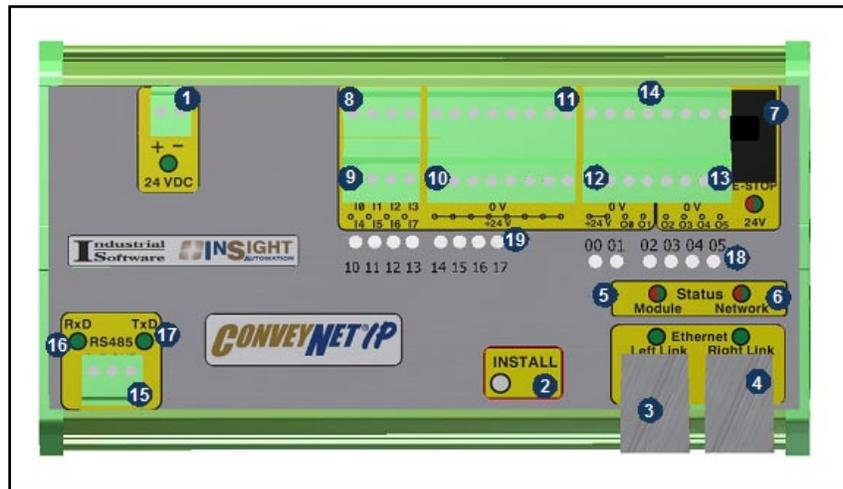
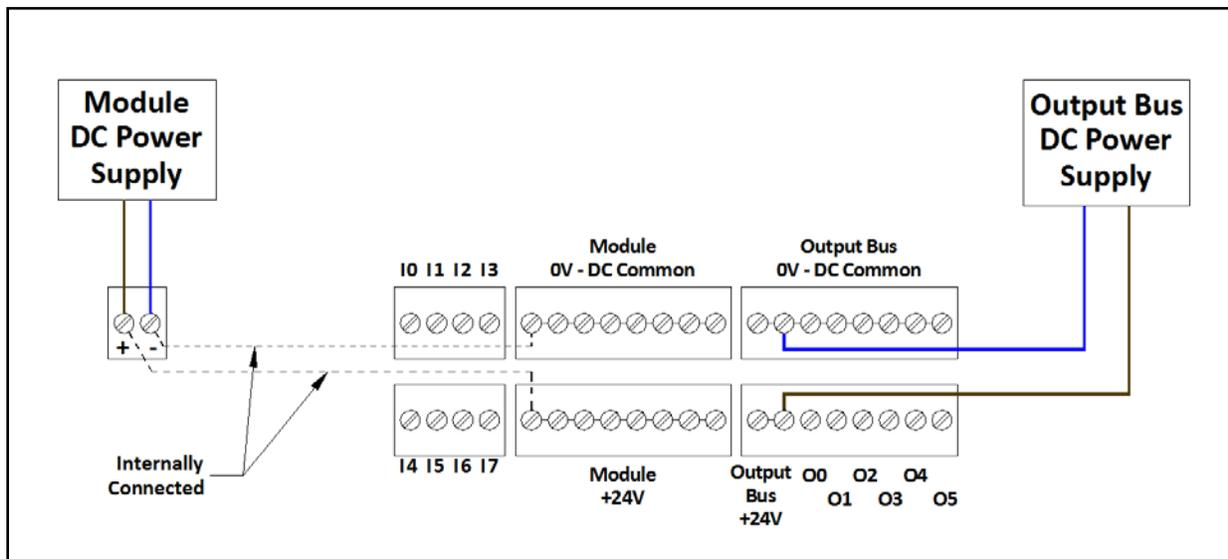
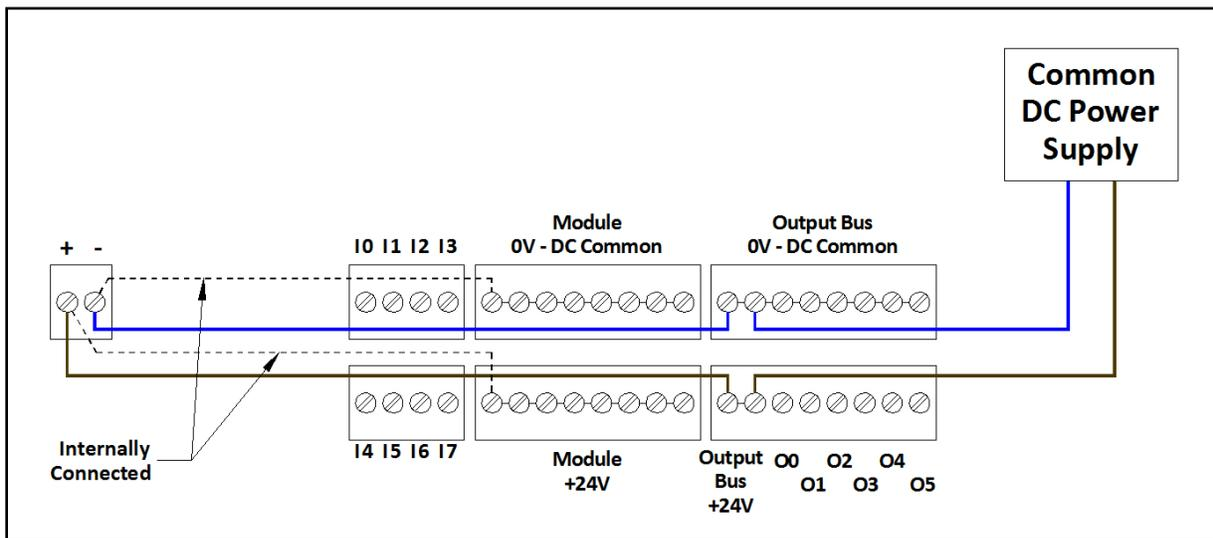
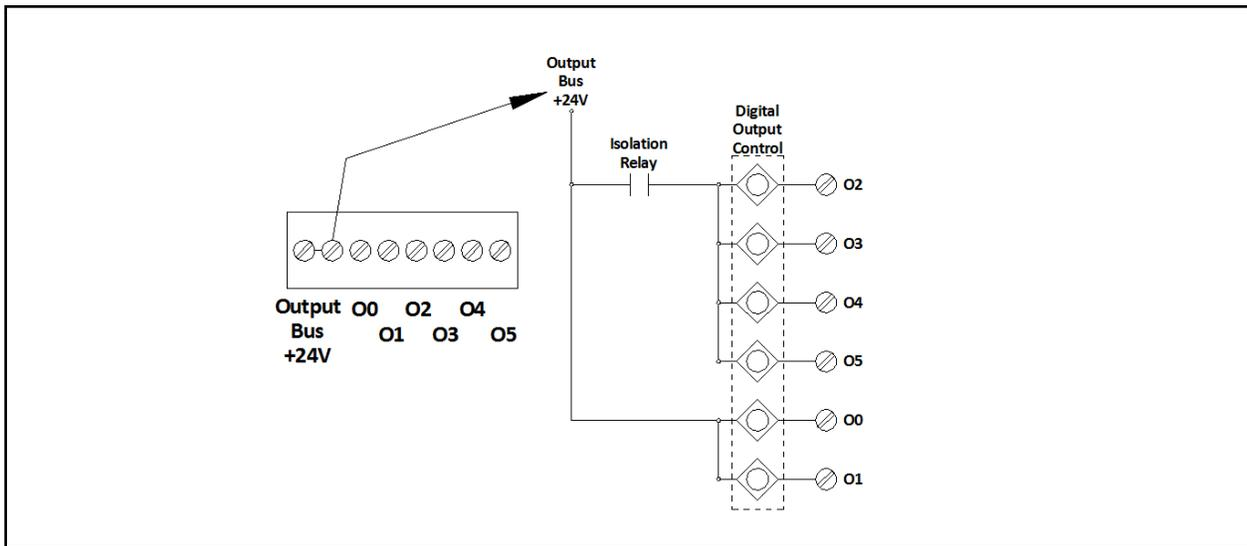

FIGURE 2 - CNIP MODULE HARDWARE
FIGURE 4 - SEPARATELY POWERED OUTPUT BUS EXAMPLE
FIGURE 5 - SINGLE POWER FEED EXAMPLE
FIGURE 8 - ISOLATION RELAY INTERNAL CIRCUIT
CNIP module status is indicated by several LED's. All LED's with the exception of the Ethernet Link and Activity LEDs are multicoloured and context sensitive. The following chart indicates the various meanings of all CNIP LED indicators. Please refer to *Figure 2* for the item number locations on the module. By definition *Blinking* is approximately ½ second on/off cycle and *Flashing* is approximately ¼ second on/off cycle.
The CNIP module is designed such that all 6 digital outputs receive their power from the supply connected to the Output Bus (Item 12 from Figure 2). This is done so that the Output Bus Power Supply can be separately switched off so that the integrator is assured that all digital outputs can de-energized regardless of the logical state of the digital output being remotely controlled by the PLC. Because the CNIP Module power can be fed separately from the output bus power and can remain on when the output bus power is off; the CNIP module's digital inputs and communications can remain active. Figure 4 shows the terminal connections on a CNIP module for powering the Output Bus separately from the Module Power Supply.
For applications where separately disconnecting the Output Bus from the Module Power Supply is not required, the CNIP module provides convenience terminals such that a single power feed can connect to the Output Bus terminals (Item 12 in *Figure 2*) point and jumper wires can be conveniently installed to connect this power feed to the Module Power Feed terminals (Item 1 in *Figure 2*). This alleviates the need to provide 2 external sets of power feed wires for each CNIP module. *Figure 5* shows an example of a single power feed for both the Output Bus and the Module Power Supply.
The Isolation Relay (Item 7 in *Figure 2*) is used as an electro-mechanical means for the on board processor to disconnect control power from outputs O2 thru O5 regardless of the logical state of these outputs. The on-board processor must be functioning for the Isolation Relay to be energized so that its contacts can supply power from the Output Bus terminal (item 12 from *Figure 2*) to outputs O2 thru O5. Also, the functioning on-board processor can de-energize the Isolation Relay based upon its own internal logic criteria. This functionality is reserved for future network-based stop/disconnect implementation(s). *Figure 8* shows the logical internal circuit for the Isolation Relay contact and its connection to digital outputs O2 thru O5.
RS-485 utilizes 2 wires for communication (plus a GND). The *CNIP* module terminals for these two wires (*Figure 2* Item 15) are designated “A” and “B”. In most device’s documentation these two wires are indicated generically as “TxRx+” and “TxRx-” and are shown for illustration purposes only. Note that there is no standard for these “+” and “-” wires, and consequently Modbus device manufacturers interpret them differently.